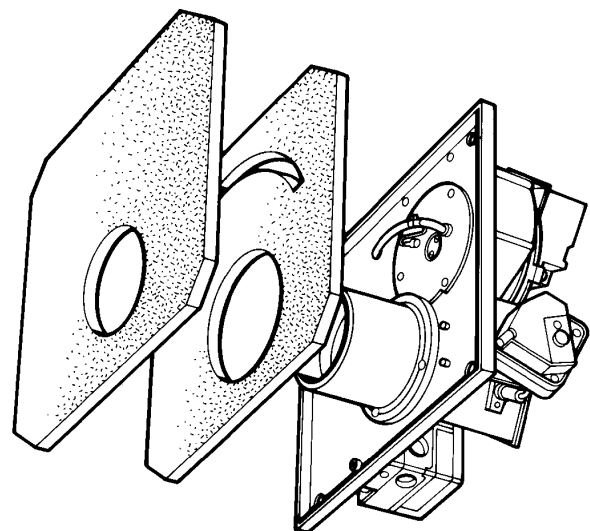

FIG. 3
6. Inspect condition of burner sealing gaskets and replace if necessary. (See Fig. 3).